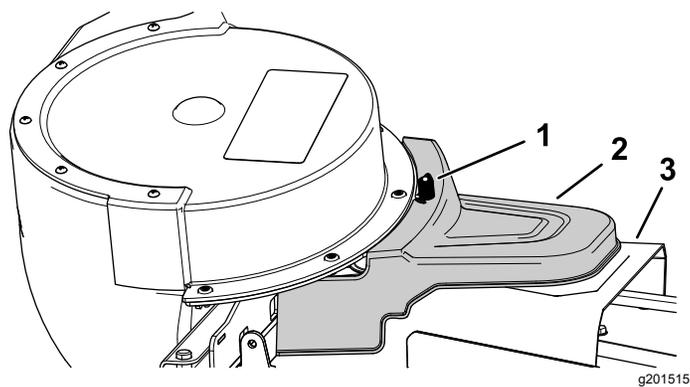

Figure 17
5. Install the powered bagger cover over the belt cover, and secure it by tightening the knob (Figure 17).